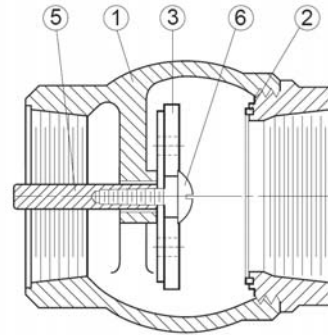

Figure 5. Regulated Exhaust Device
VALVE CONSTRUCTION: The standard body is bronze. See specific Materials List submitted for the order if other than standard construction. The general details of construction are illustrated in Figure 5. The body (1) is threaded for connection to the pipeline. See page 2 for installation to the pipeline.